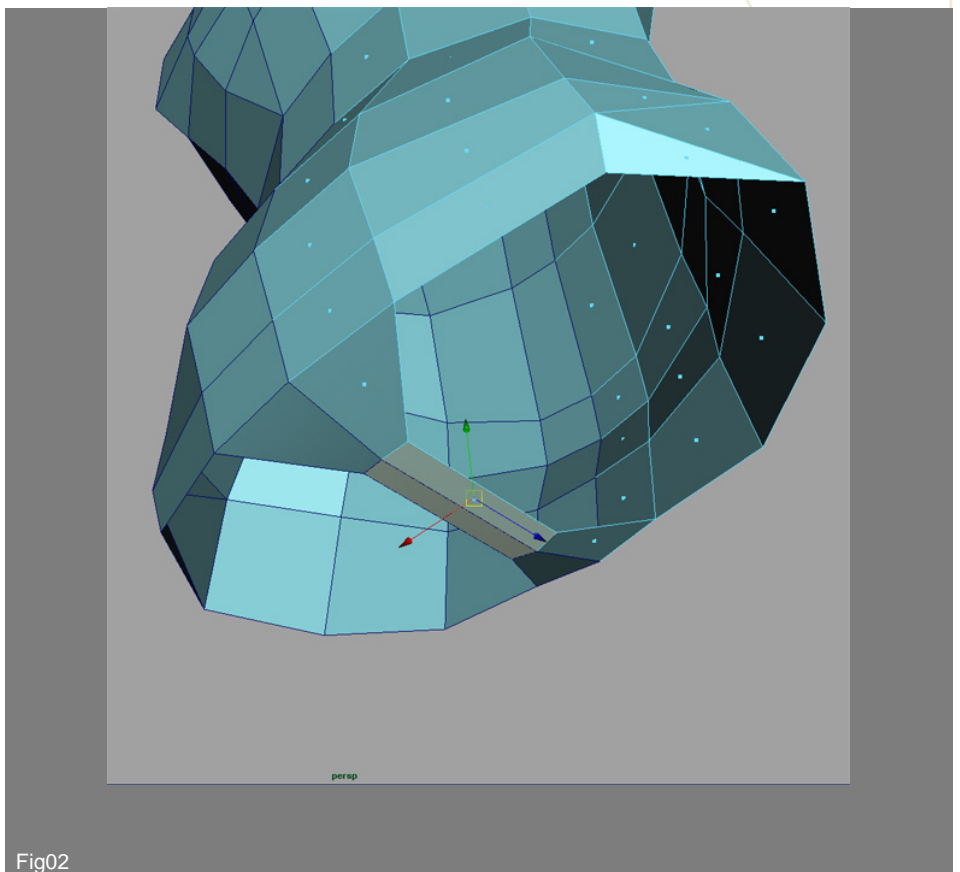

Fig02
2. Now we'll stitch them by grabbing one edge (front or back, it doesn't really matter) and by extruding it towards the other one. Arrange the verts to be in the same position and use the "Merge Vertices" tool to collapse them. Then move the vertices to get a narrow surface between the legs, as in Fig02. We have now two holes from where we can start building the legs.